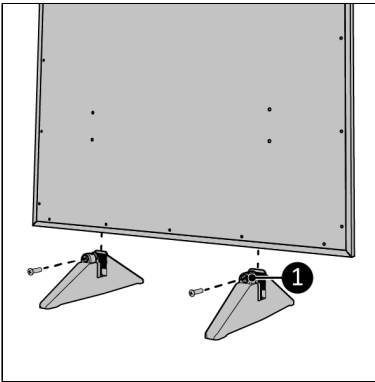

Figure 13.
2. Screw and tighten the pedestals (Figure 13, pos. 1).